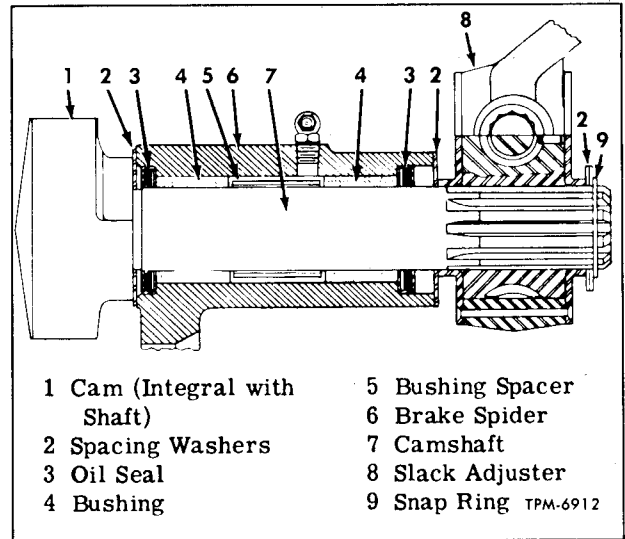

Figure 9—Front Brake Camshaft and Slack Adjuster Mounting
Front brake camshafts are mounted in two bushings in brake spider (fig. 9). Lubrication fitting in spider provides method for lubricating bushings. Lubricant is retained by seals which are pressed into spider.
4. To remove camshaft (fig. 9), disconnect brake chamber push rod yoke from slack adjuster. Remove snap ring and washer securing slack adjuster on camshaft and pull slack adjuster off end of shaft. Pull camshaft out of brake spider, stripping spacing washers off shaft as shaft is removed.
2. Install large spacing washer on camshaft and insert camshaft through bushings in spider (fig. 9), being careful not to damage oil seals.
5. Place spacing washer and spacer over inner end of camshaft (fig. 9), install slack adjuster on camshaft, and secure with washers and snap ring. Connect brake chamber push rod yoke to slack adjuster, using clevis pin and cotter pin. Back off slack adjuster worm shaft until shoe rollers rest on lowest points on cam.
Camshafts are mounted in bushings in brake spider. Mounting is similar to front camshaft mounting shown in figure 9. Lubrication fitting in spider lubricates bushings. Lubricant is retained by seals pressed into spider.
1. Unhook brake shoes as directed in "Rear Brake Shoe Removal," steps 1 and 2. Swing brake shoes away from cam. Rear camshaft mounting is similar to front mounting shown in figure 9.